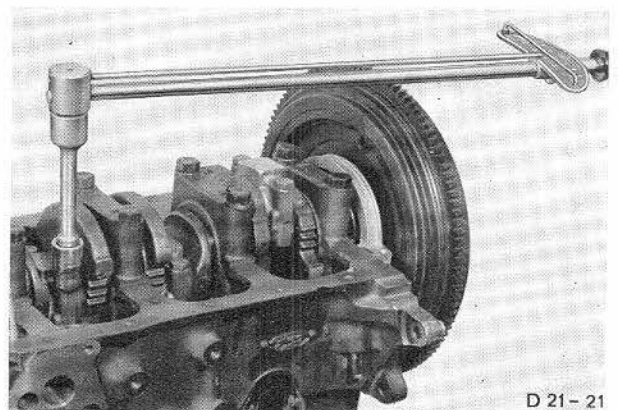

Fig. 54. Torque connecting rod bolts as specified in Technical Data.
52. Fit big end bearing cap complete with oiled bearing shell. Torque connecting rod bolts as specified in Technical Data, Fig. 54.